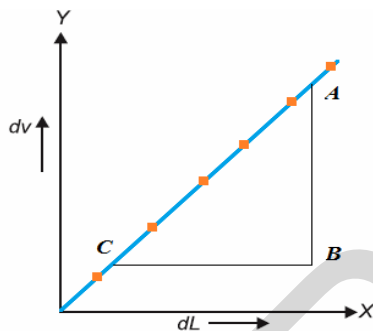

Fig. 2: Graph between dV and dL
11. Plot a graph taking dL along the X-axis and the corresponding value of dV along the Y-axis. This will come out to be a straight line (Fig.2). Its slope will give the average value of dV/dL .